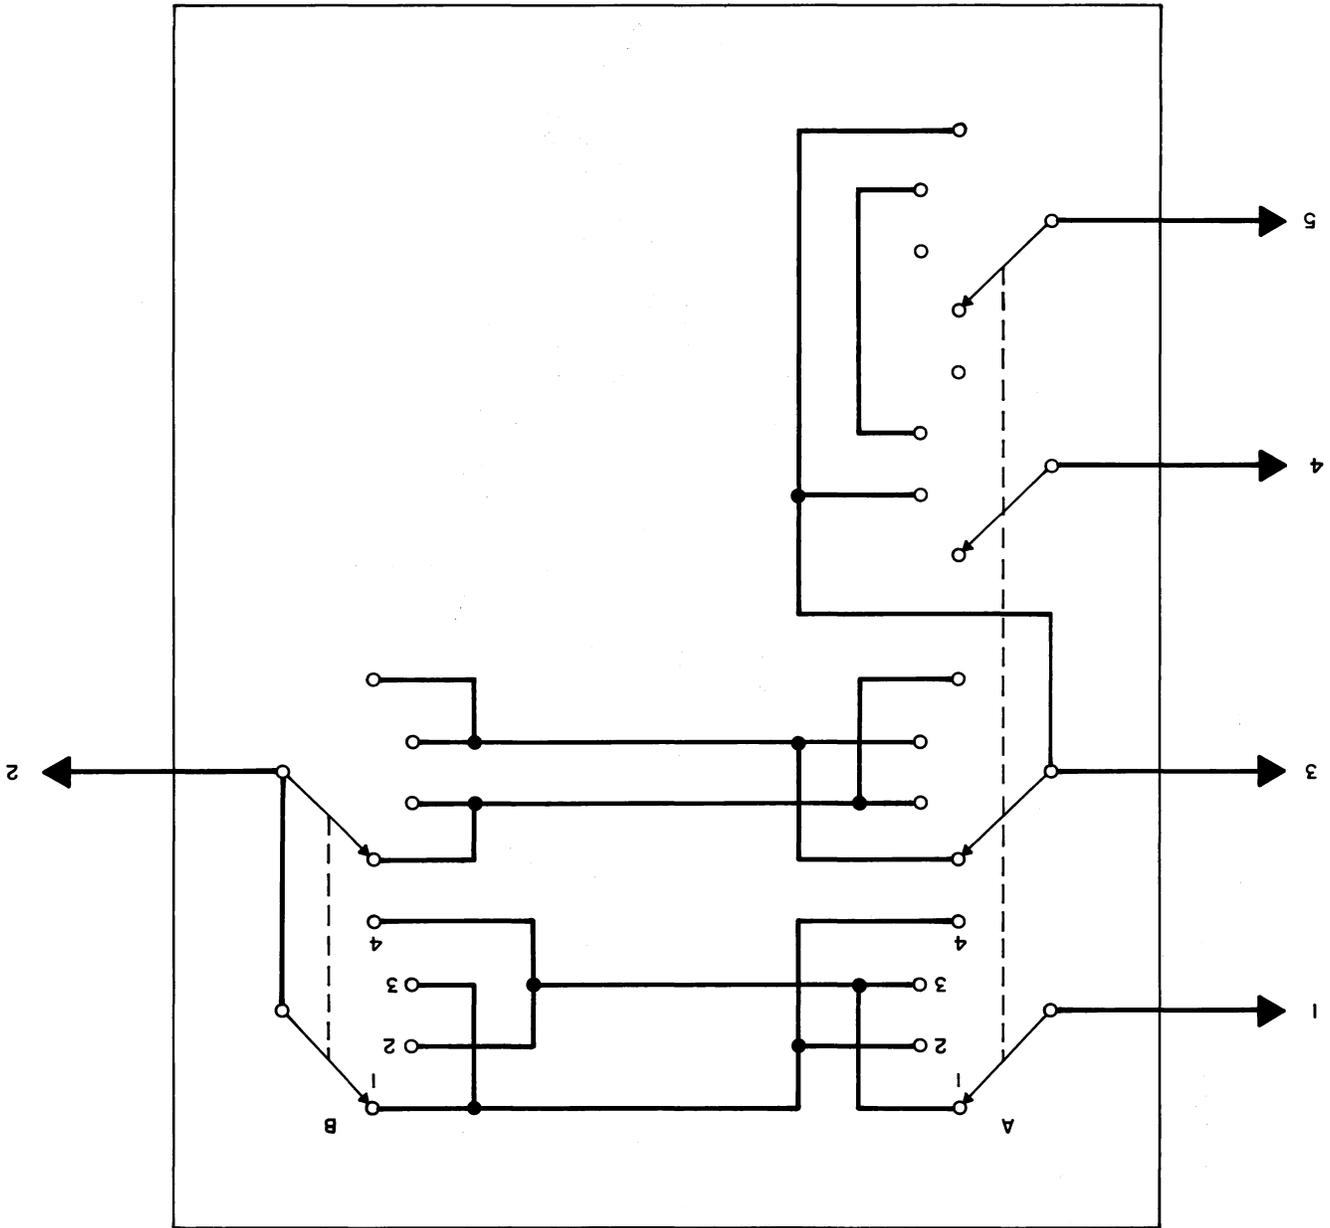

Fig. 20 - (Automatic Gain Control 2 Test)
- (2) Located on the AGC2 card are five numbered strapping pins. This section of the test will determine which pins, if any, are to be strapped. Connect the test set shown in Fig. 20 to the five strapping pins located on the AGC2 card. Set both switches to position 1.